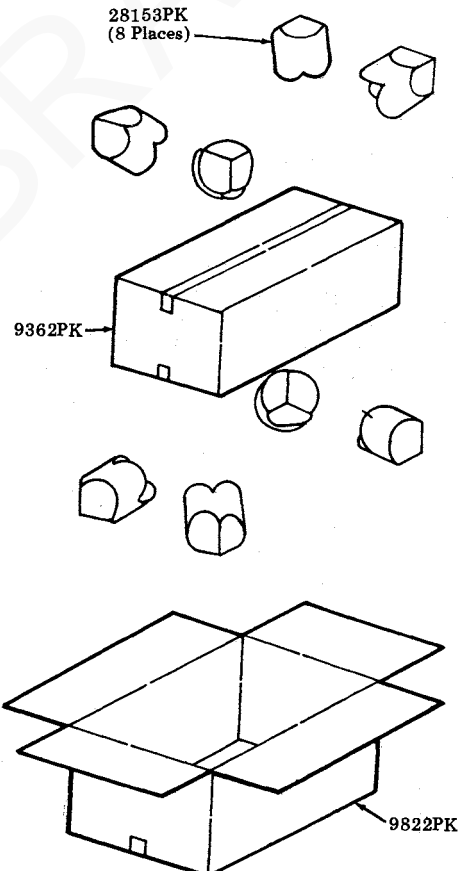

Fig. 55
- Step 5. Form a 9822PK shipping container. Form bottom flaps outward and place over inner container as illustrated in Fig. 55.
- Step 6. Position a 28153PK corner detail on each of the four corners of the inner container as illustrated in Fig. 55.